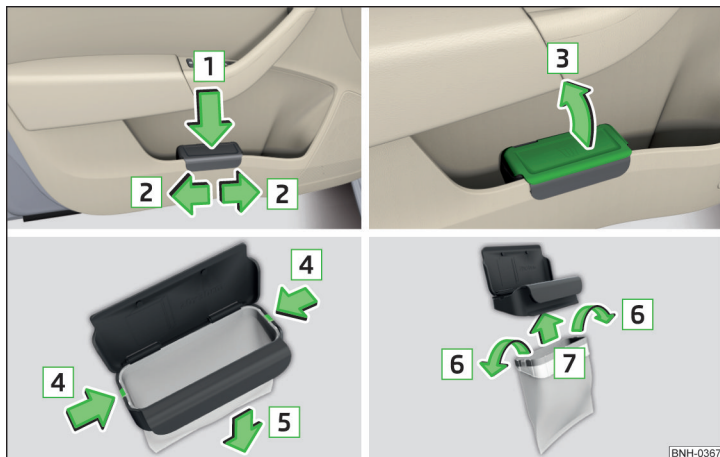

Fig. 67 Waste container: insert and move / open / replace bag
- › Push the waste container to the back in the direction of the arrow **1** » Fig. 67.
- › Remove the waste container in the opposite direction to the arrow **1** » Fig. 67.
- › Open the waste container in the direction of the arrow **3** » Fig. 67.
- › Push the two catches of the inner frame out of the container body in the direction of the arrow **4** » Fig. 67.